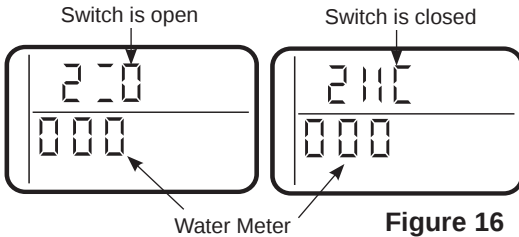

Figure 16
1. Press and hold **MODE/SET** for 3 seconds until the Set low salt alarm display appears, next press the **MODE/SET** button two additional times until “000” shows in the display, then release, see Figure 16.
3. Symbols in the display indicate POSITION switch operation, see Figure 16.